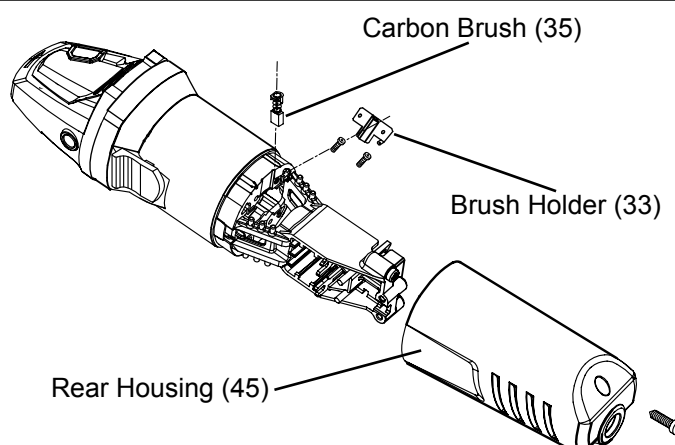

Figure 2 – Brush Replacement
- a. To replace brushes, remove Screw from center of Rear Housing (45) and slide the Housing off. See Figure 2 .
- b. Loosen Screws holding Brush Holder (33) in place. Then remove Carbon Brush (35) from Holder.